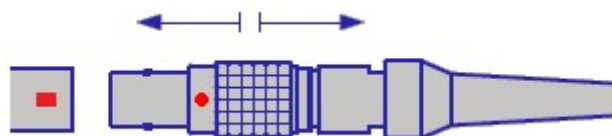

Figure 79: Connection of DC Connectors
4. Line up the red dot on the DC output connector of the AC Adapter with the red line on the power input connector of the Vesta Charger and then insert in the DC output connector into the power input connector. **See Figure 79.**